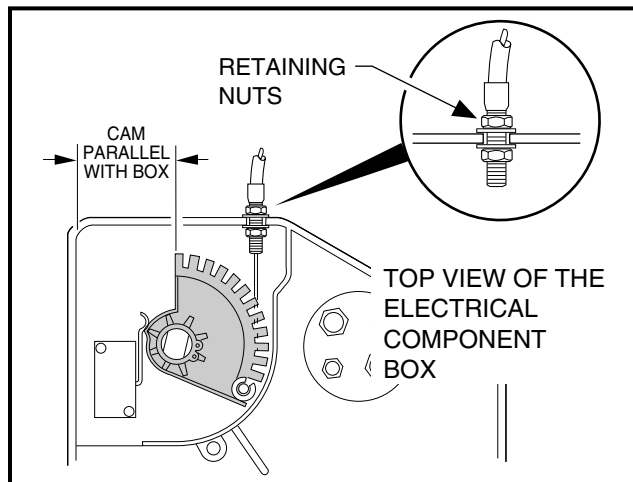

Figure 5-20 Accelerator Cable
5.2. Loosen the jam nuts (25) and disconnect the accelerator rod (17) at the accelerator pedal (Figure 5-6, Page 5-8). Adjust the length of the rod so the indicated cam edge is parallel with the edge of the electrical component box as shown (Figure 5-20, Page 5-20). See following CAUTION.